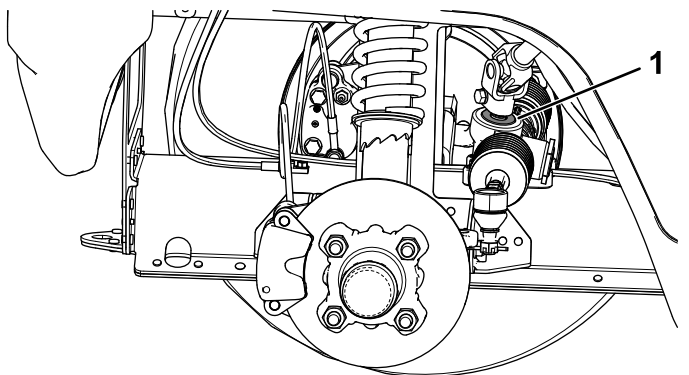

Figure 48
- Important:** Inspect the condition and security of the pinion-shaft seal (Figure 48).